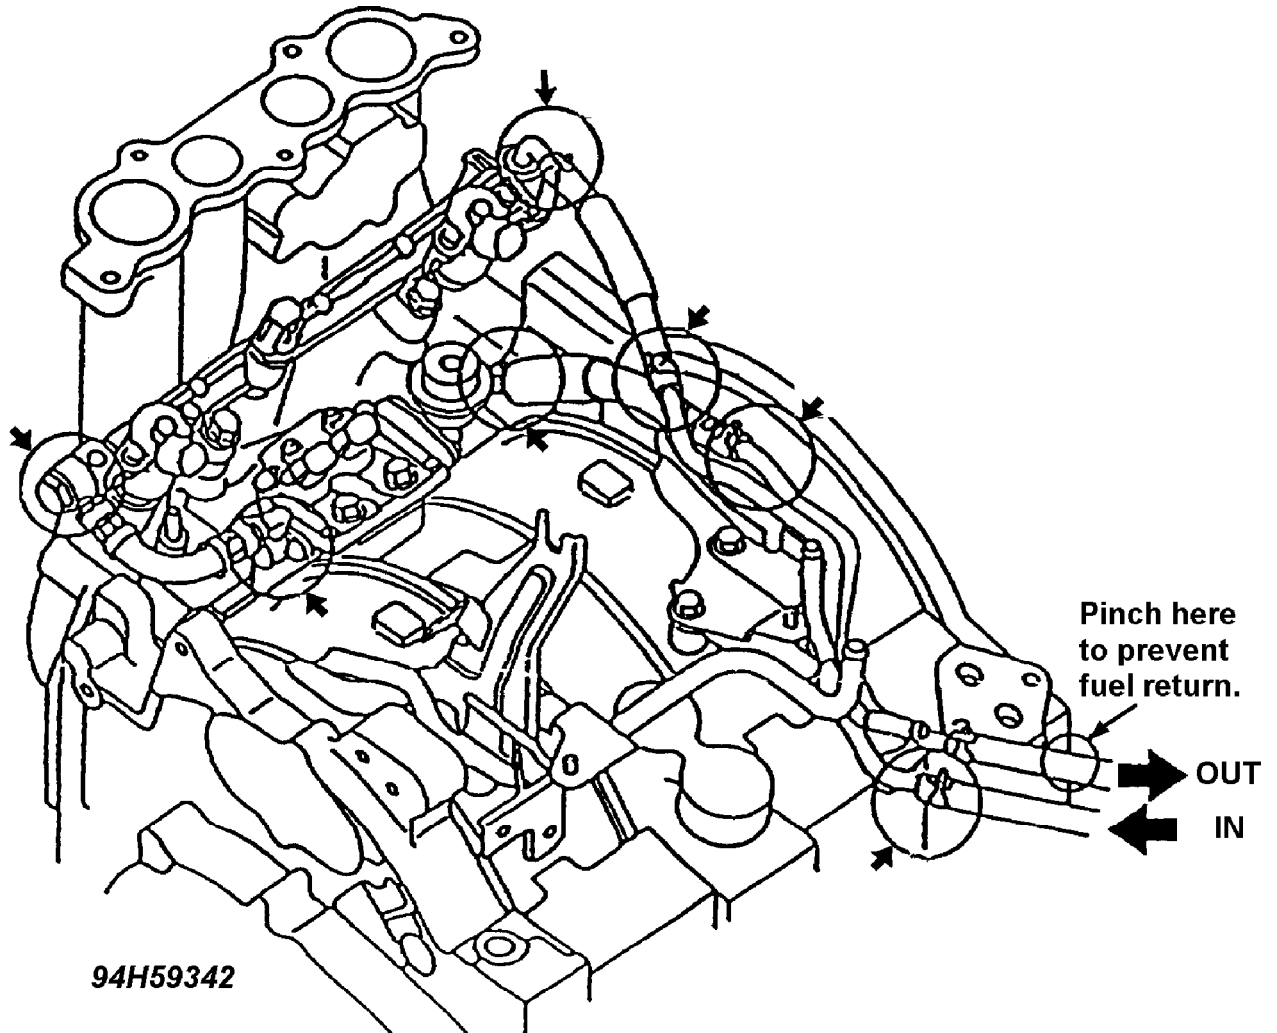

Fig. 29: Seven Fuel Leakage Areas
3. Pinch the fuel return hose with a suitable tool, to stop any fuel return to the tank. See Fig. 29.
\* Check for fuel leakage visually and by odor. Carefully check the positions (seven) indicated by the arrows shown in Fig. 29. If fuel leakage is found, repair the problem. Once repaired, check again according to the above steps.